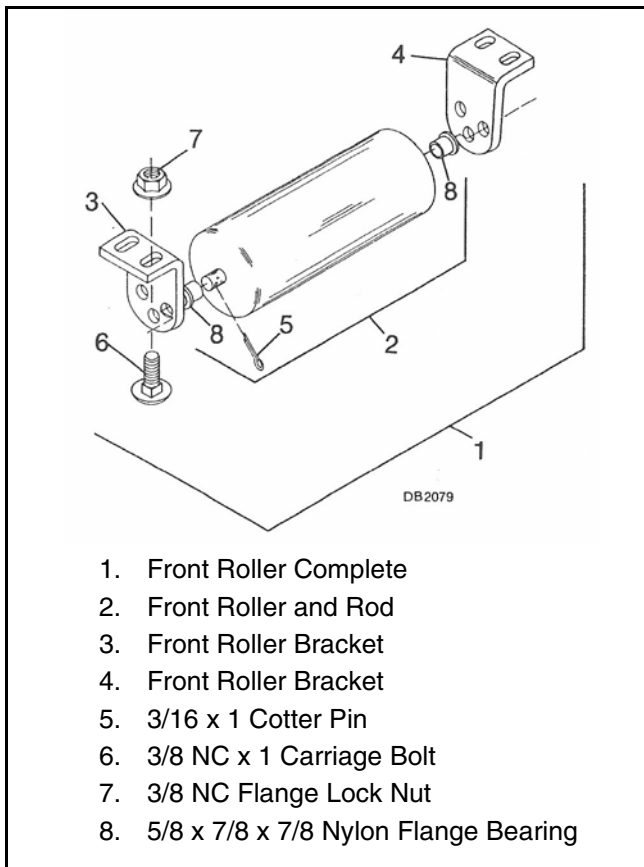

Figure 28. Front Roller
See Figure 28. Place and secure mower in vertical position to make front roller installation easier.
The left roller bracket angle should be installed so highest hole is to the front with bracket angle extending left, item 3). See Figure 28.